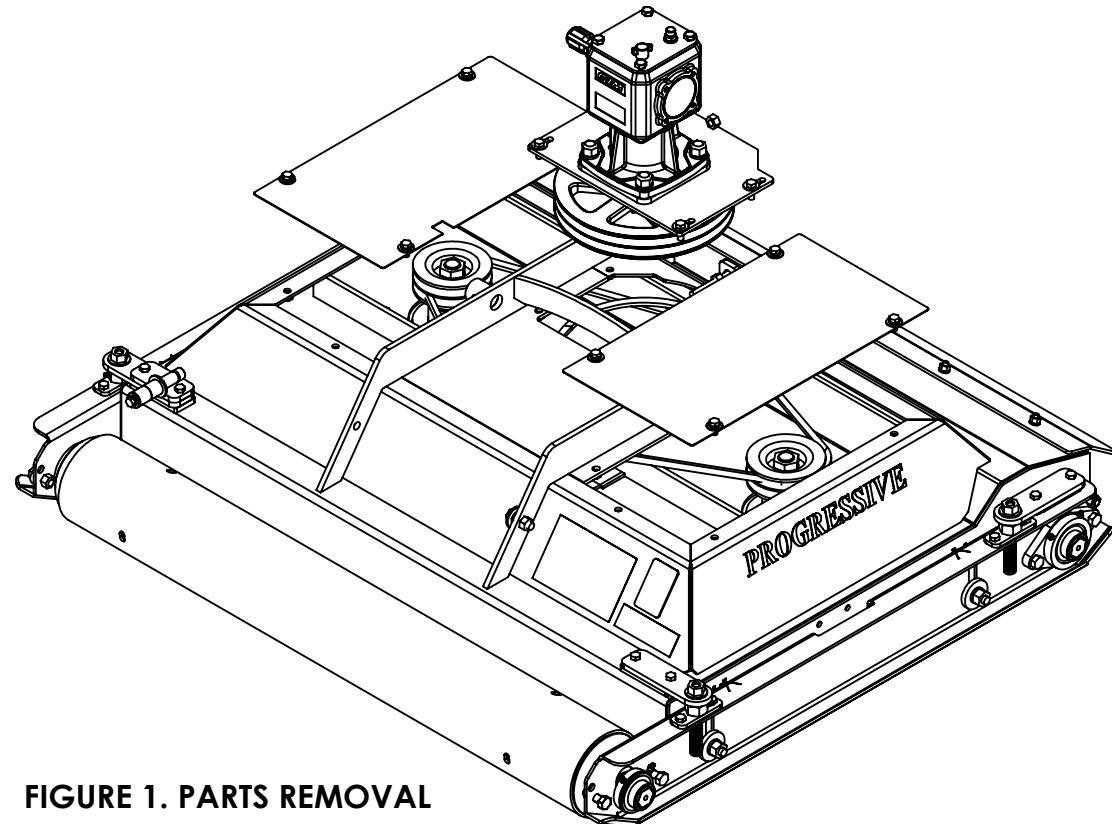

FIGURE 1. PARTS REMOVAL
2. REMOVE DECK SHIELDING AND BELTS. THEN REMOVE GEAR BOX, PULLEY, AND THE MOUNTING PLATE. SEE FIGURE 1.